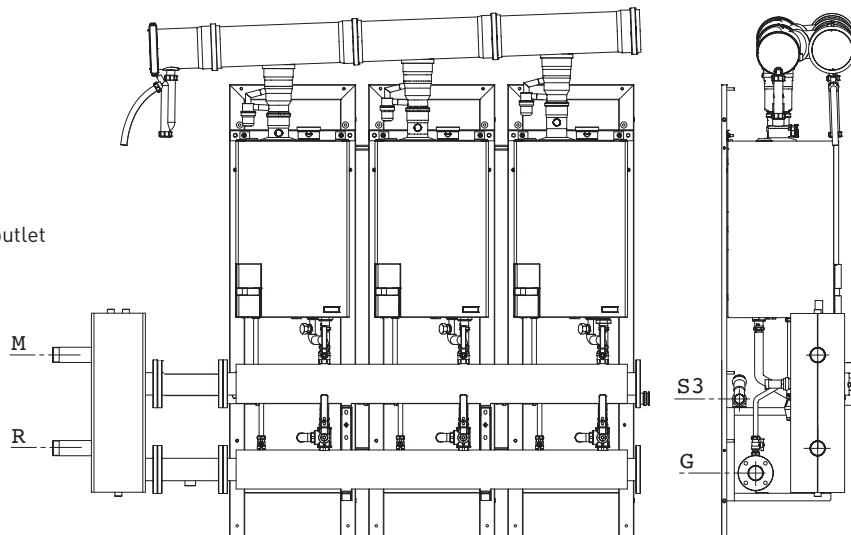

Fig. 4
**2.2.1 Single boiler (fig. 4)**
**2.2.2 Sequence/cascade boilers (fig. 4)**